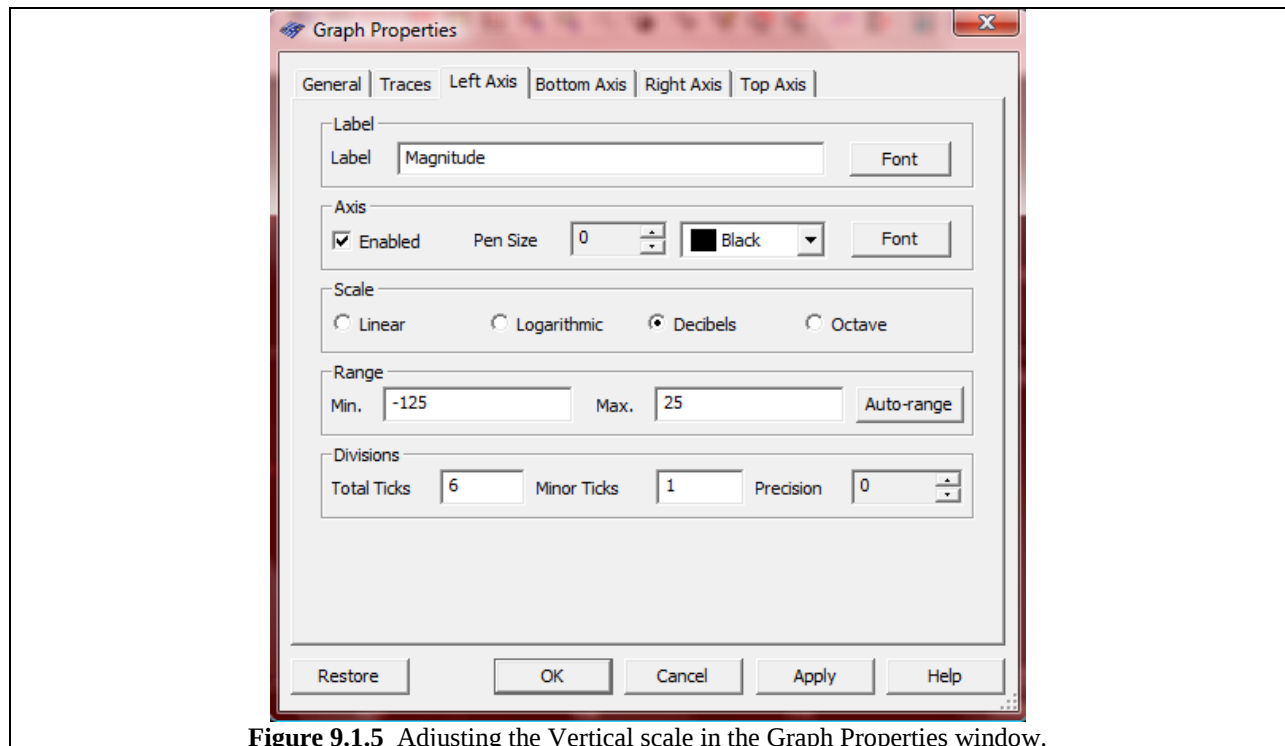

Figure 9.1.5 Adjusting the Vertical scale in the Graph Properties window.
3. Under the Range Menu, set Min. to -125 and Max. to 25 as shown in Fig. 9.1.5.